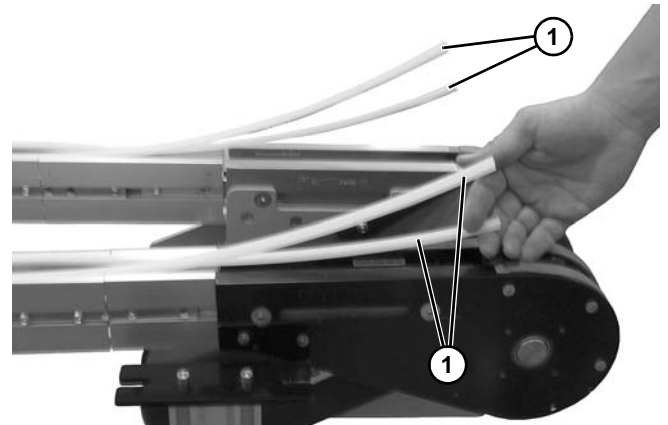

Figure 180
4. Remove wear strips (Figure 180, item 1) from the tails.